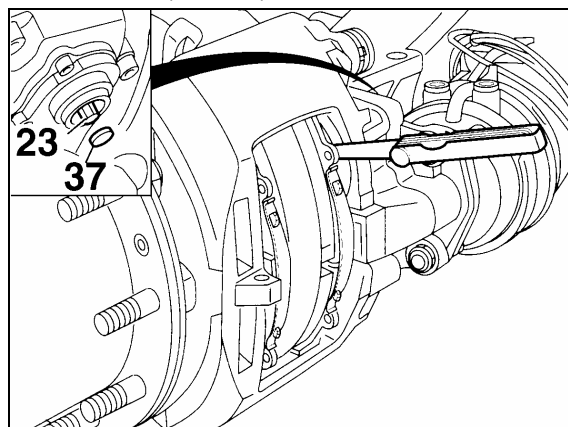
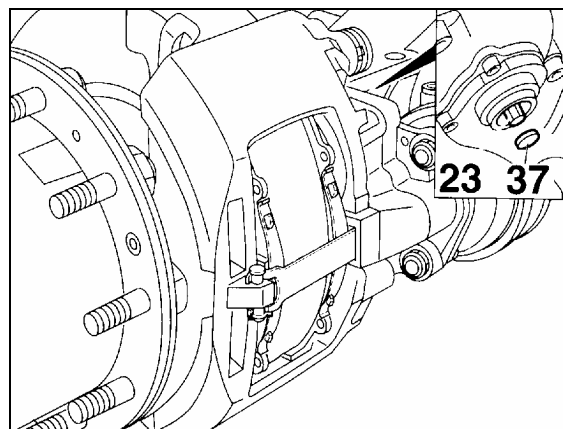

FIGURE 25: RUNNING CLEARANCE
FIGURE 26: ADJUSTER PINION
Brake pads have to be checked on a regular basis depending on the vehicle operation. The remaining thickness of the pads should never be less than 3/32 in (2 mm). To check pad condition without removing the wheel, verify the position of guide bushing (6) relatively to guide sleeve (4) (see Fig. 26). When guide sleeve is in alignment with guide bushing, brake pad thickness has to be checked more precisely with the wheel removed. When replacing brake pads, all four pads on an axle have to be changed at the same time. There is no inner or outer pad, since all pads are the same. Once removed, worn pads should be replaced in their original position.
- a) Remove cap (37, Fig. 25).
- b) Using a box wrench (8 mm), turn the adjuster pinion (23, Fig. 25) counterclockwise about 2 - 3 clicks to increase running clearance. By operating the braking system about 5 - 10 times (30 PSI or 2 bar), the wrench should turn clockwise in small increments if the adjuster is functioning correctly (Figs. 26 and 27).